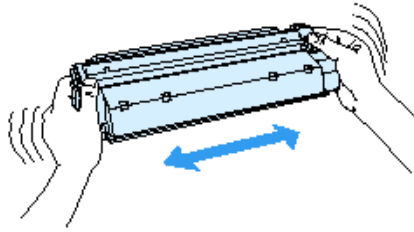

Figure 3. Shaking The Toner Cartridge Gently
2. Remove the new toner cartridge from the packaging and gently shake it from side to side to distribute the toner evenly inside the cartridge as shown in Figure 3.